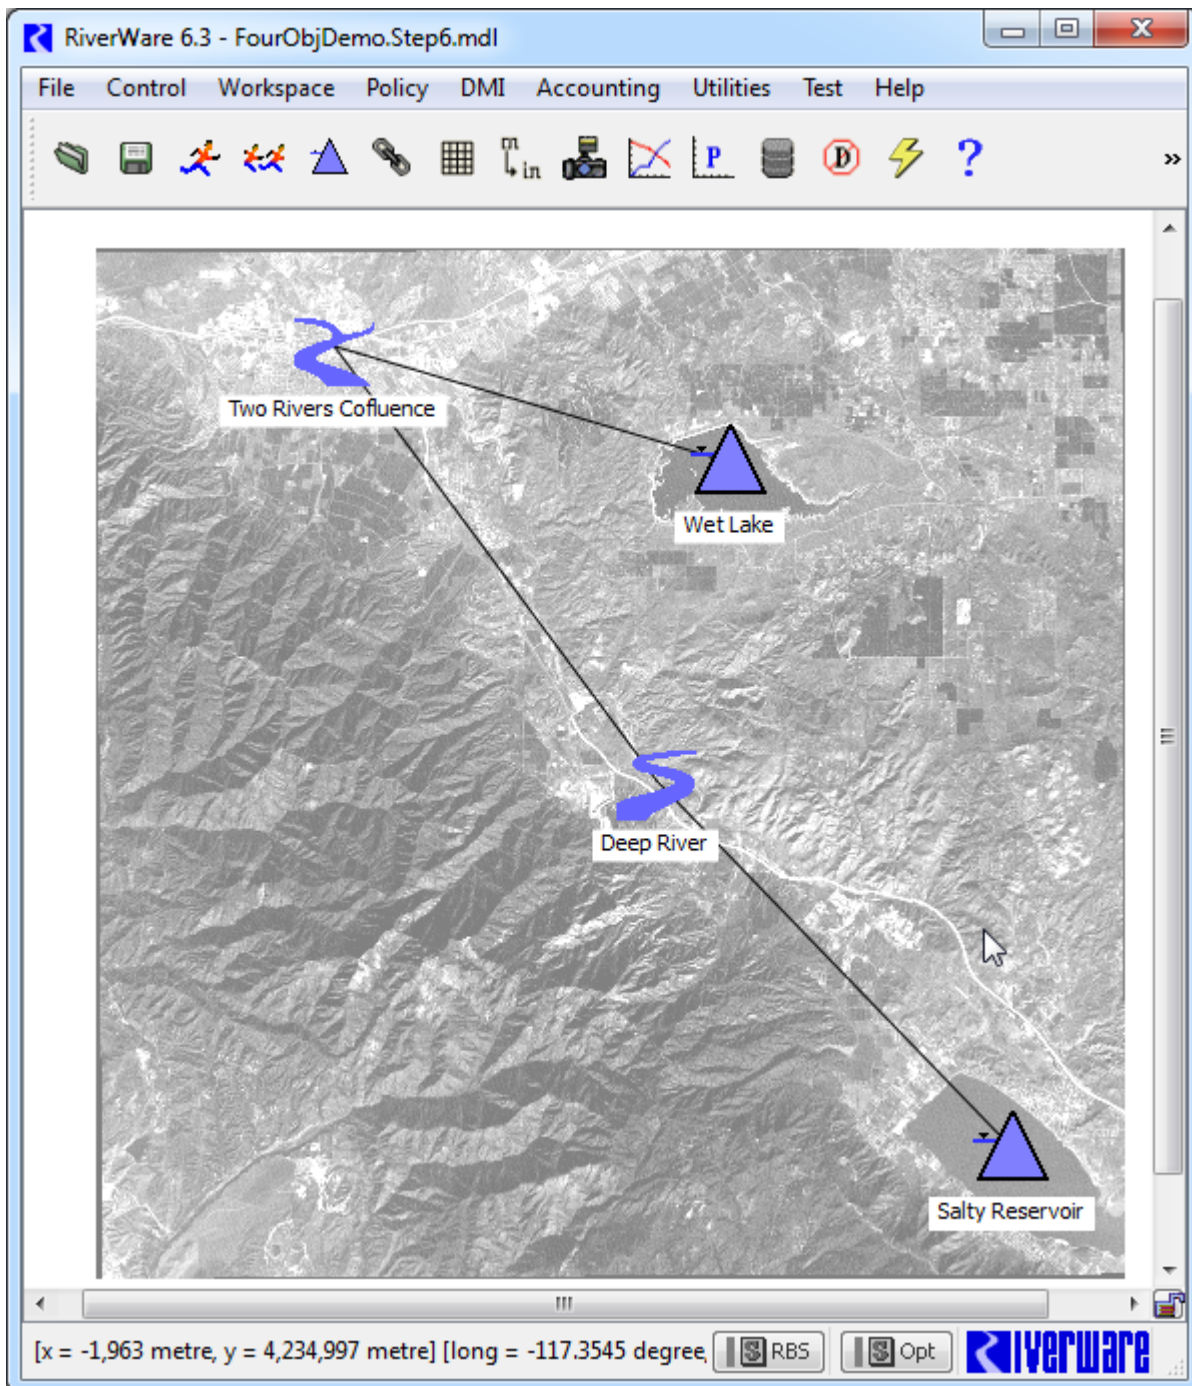

Figure 11: Geospatial canvas after moving objects
Step 6 - Position the objects: All of the objects are on the canvas, but they are not at their true locations. If you knew their coordinates in the projected coordinate system, you could use the **Object Coordinate Manager** to place them, but for most purposes, placing them by hand in the workspace is adequate. Figure 11 shows the workspace after placing the objects at their approximate locations on the map.